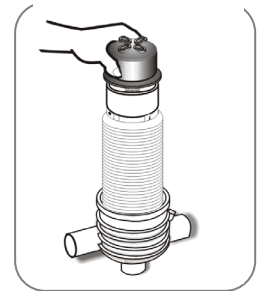

Figure 3
4. Remove the tightening cylinder. (Figure.3)